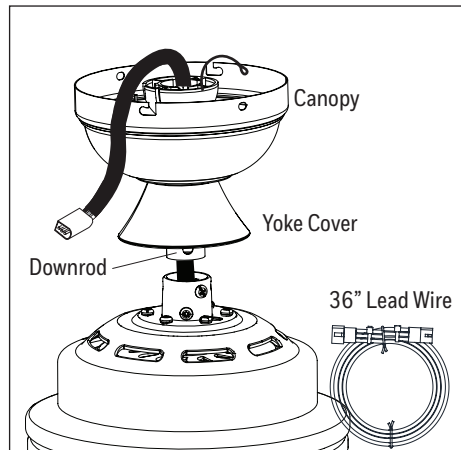

Figure 3.2
2. Insert the downrod through the canopy and yoke cover. Feed the wires and braided cable from the fan through the downrod. Depending on the length of downrod you use, you may need to use the 36-inch lead wire to accommodate a 36 or 48-inch downrod (sold separately). When necessary, connect the 3-pin connector extending from the center of the downrod to one end of the 36-inch lead wire. **Note:** The downrod included with this fan will not utilize the 36-inch lead wire (Figure 3.2).